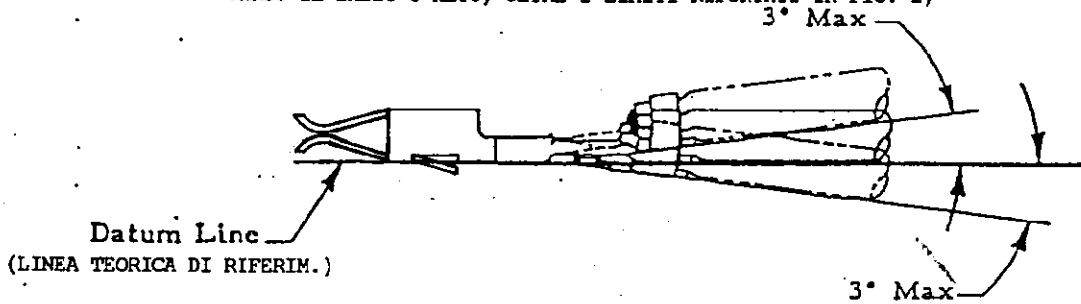
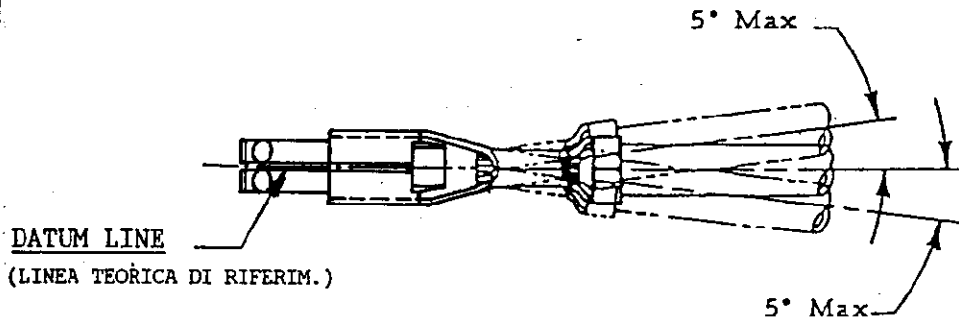

Figure 2
Figure 3
- (1) The contact, including the cutoff tab and burr shall not be bent above or below the datum line more than the amount shown in Figure 2. (IL TERMINALE, AD AGGRAFFATURA AVVENUTA, NON DEVE RISULTARE PIEGATO, VERSO IL BASSO O ALTO, OLTRE I LIMITI RIPORTATI IN FIG. 2)
- (2) The side to side bending of the contact shall not exceed the limits specified in Figure 3. (IL TERMINALE, AD AGGRAFFATURA AVVENUTA, NON DEVE RISULTARE PIEGATO, LATERALMENTE LATO DESTRO E/O SINISTRO, OLTRE I LIMITI RIPORTATI IN FIG. 2)